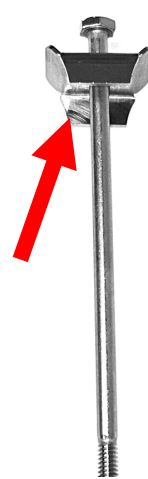

Figure 1
- Using the photo as a reference for orientation, slide the the top guard on the bolt (see Figure 1).